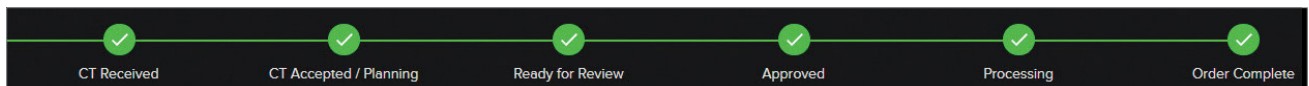

Figure 4. Case status flowchart
- **Status**—This indicates a case’s current status along the preoperative planning process (Figure 4). The case progresses through the following statuses during the preoperative planning workflow: